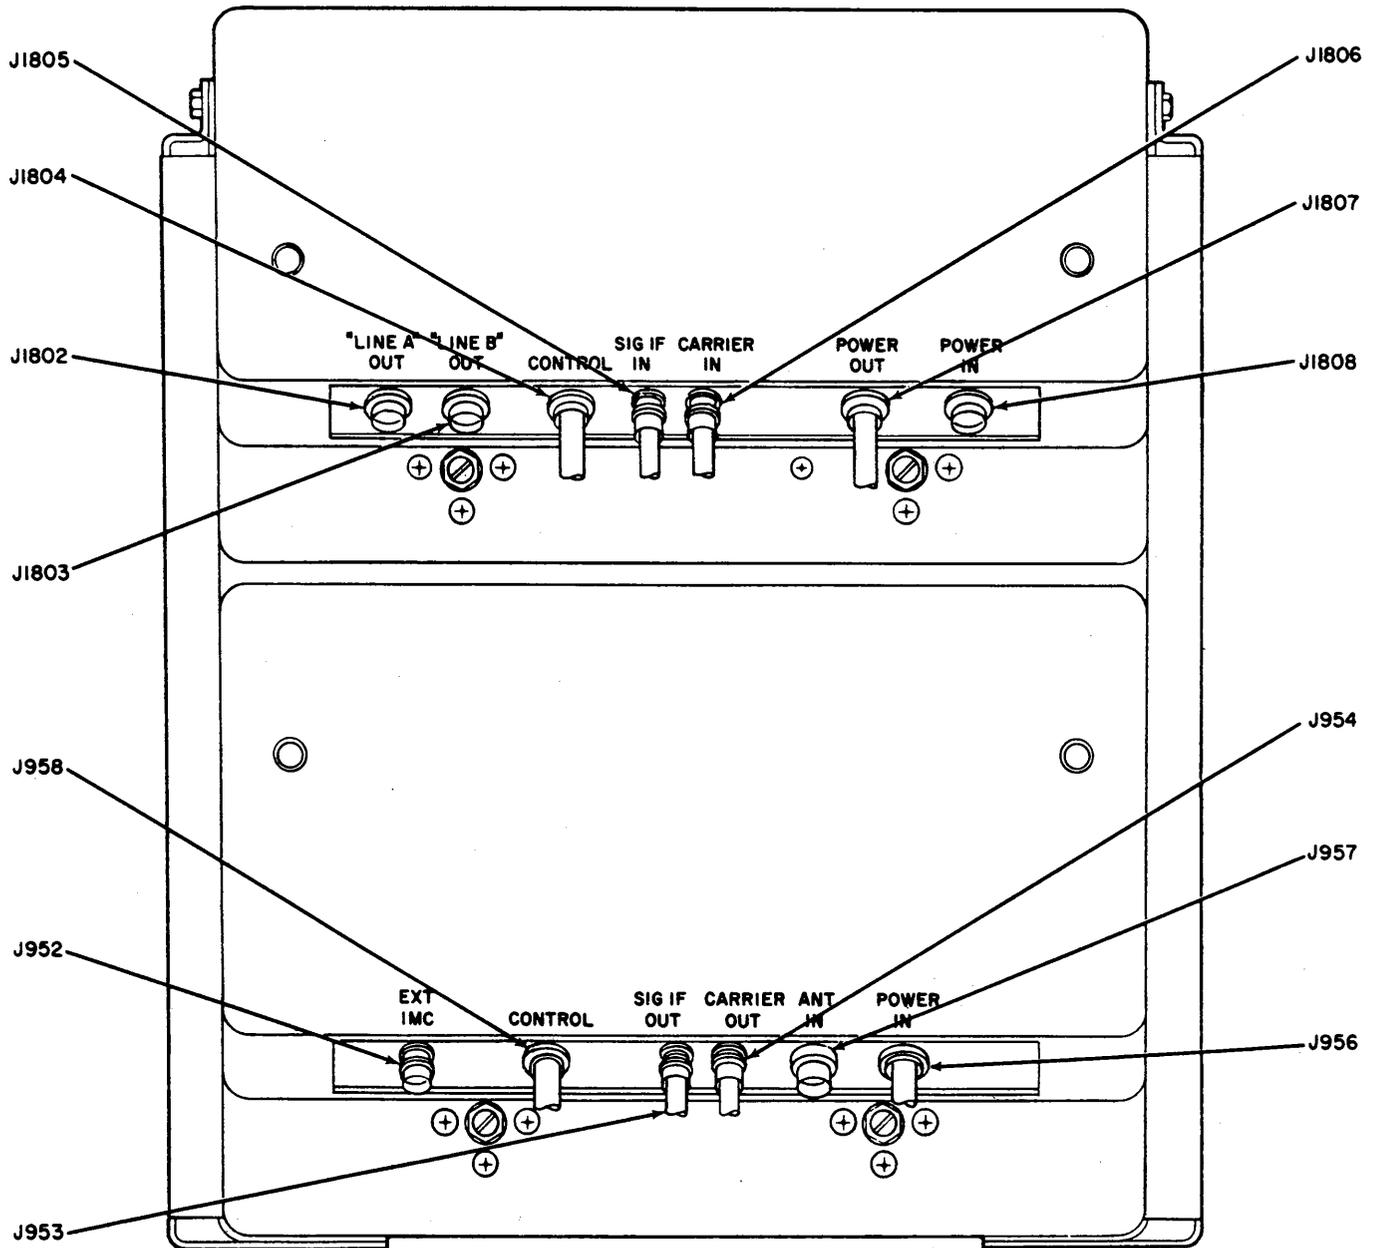

Figure 2-6. External Cable Connections
(4) REASSEMBLY.—To reassemble the cabinet structure, reverse the foregoing process.
(5) REMOVAL AND REPLACEMENT OF BLISTERS.—A subassembly in the form of a blister is attached to the rear of each cabinet by sliding snap fasteners. Connectors for external and interconnecting cabling are mounted on the blisters (see figure 2-6). To
d. CABLE CONNECTIONS.—Although bulk cable is not supplied with the receiver, appropriate connectors (plugs) are furnished for all necessary external cable connections. Interconnecting cables between the converter and demodulator drawers are furnished as complete assemblies. Receptacles for all external and interconnecting cables are located in the recessed panels at the rear of each drawer, as shown in figure 2-6. Table 2-1 contains a summary of the types and functions of all external connecting plugs in their mating receptacles.